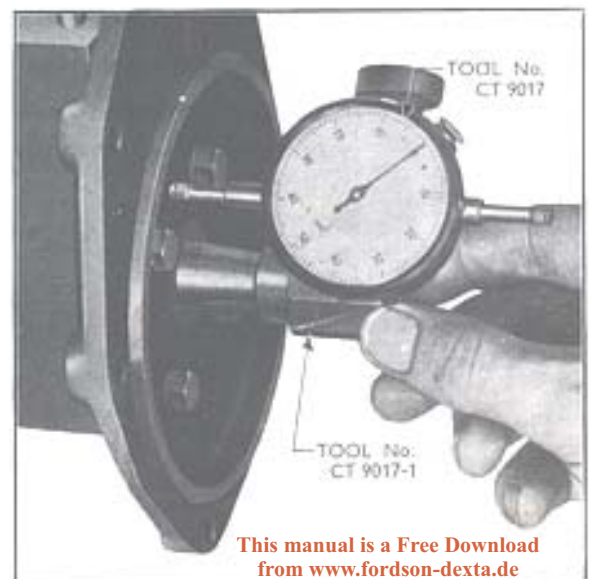

Fig. 17
6. Using the adaptor (tool No. CT.9017-1) and a dial indicator gauge (CT.9017), check the camshaft end-float (see Fig. 17). This should be between .002 to .006 in. (.051 to .152 mm.). Shims .004 to .008 in. (.1 to .2 mm.) thick are available for correcting end-float.